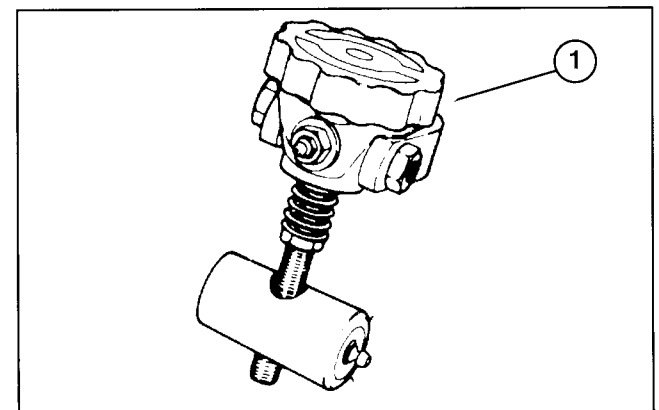
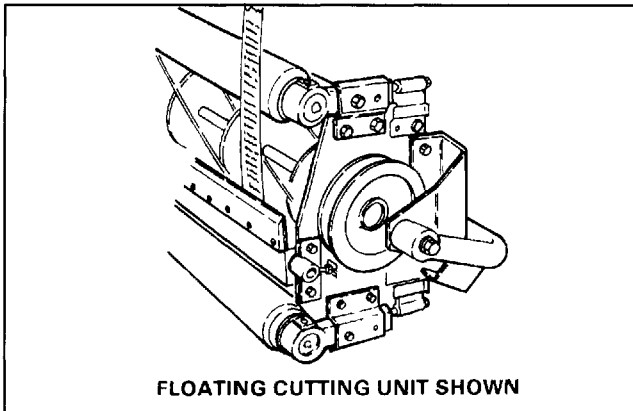

Figure 9
Figure 10
ADJUST BEDKNIFE PARALLEL TO REEL (Fig. 9–10) (Floating or Fixed Cutting Units)
1. Make sure reel contact is removed by turning bedknife adjustment knob counterclockwise (Fig. 9). Tip cutting unit to gain access to reel and bedknife (Fig. 10).